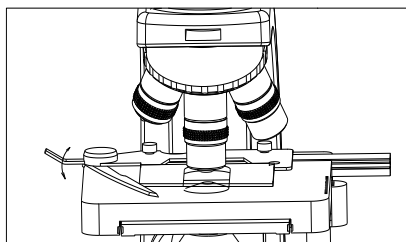

Fig.2
- (1) Push the arm of the specimen holder back.
- (2) Insert the slide with the cover glass facing up and allow the arm of the specimen holder forward. (See fig.2)
- (3) Rotate the X and Y-axis knobs on the mechanical stage to move the specimen to the center (the center of the objective).